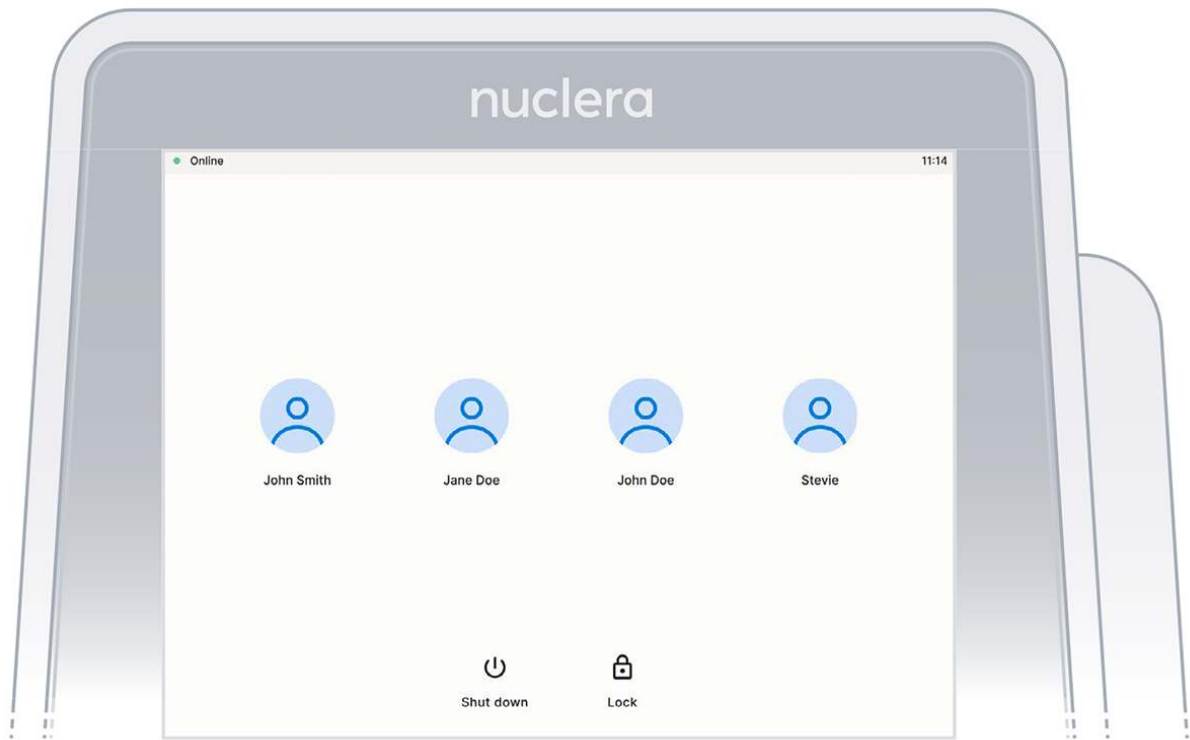

Figure 6a: User accounts on the instrument software
2. Log into the instrument software by selecting the user and entering PIN (Figure 6a and 6b).